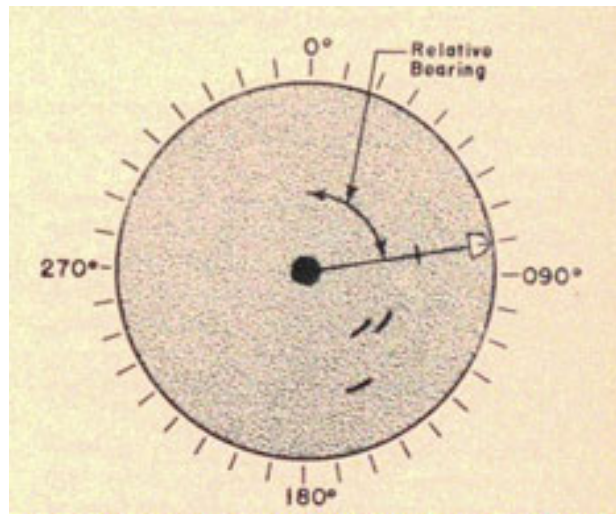

Figure 4 SF-9. Correct bearing setting.
As the antenna rotates, a pointer (bug) revolves around the PPI indicator (3) in synchronization with it. The pointer indicates the direction, relative to the ship's head, in which the antenna points. Consequently, it also indicates the relative bearing of the target. New targets cause arc-shaped marks to appear on the PPI (see fig. 4 SF-9). Where they appear depends on their relative bearing and their range. Your own ship is always at the center of the indicator: the farther a target is from you, the more distant it will be from the center of the indicator.